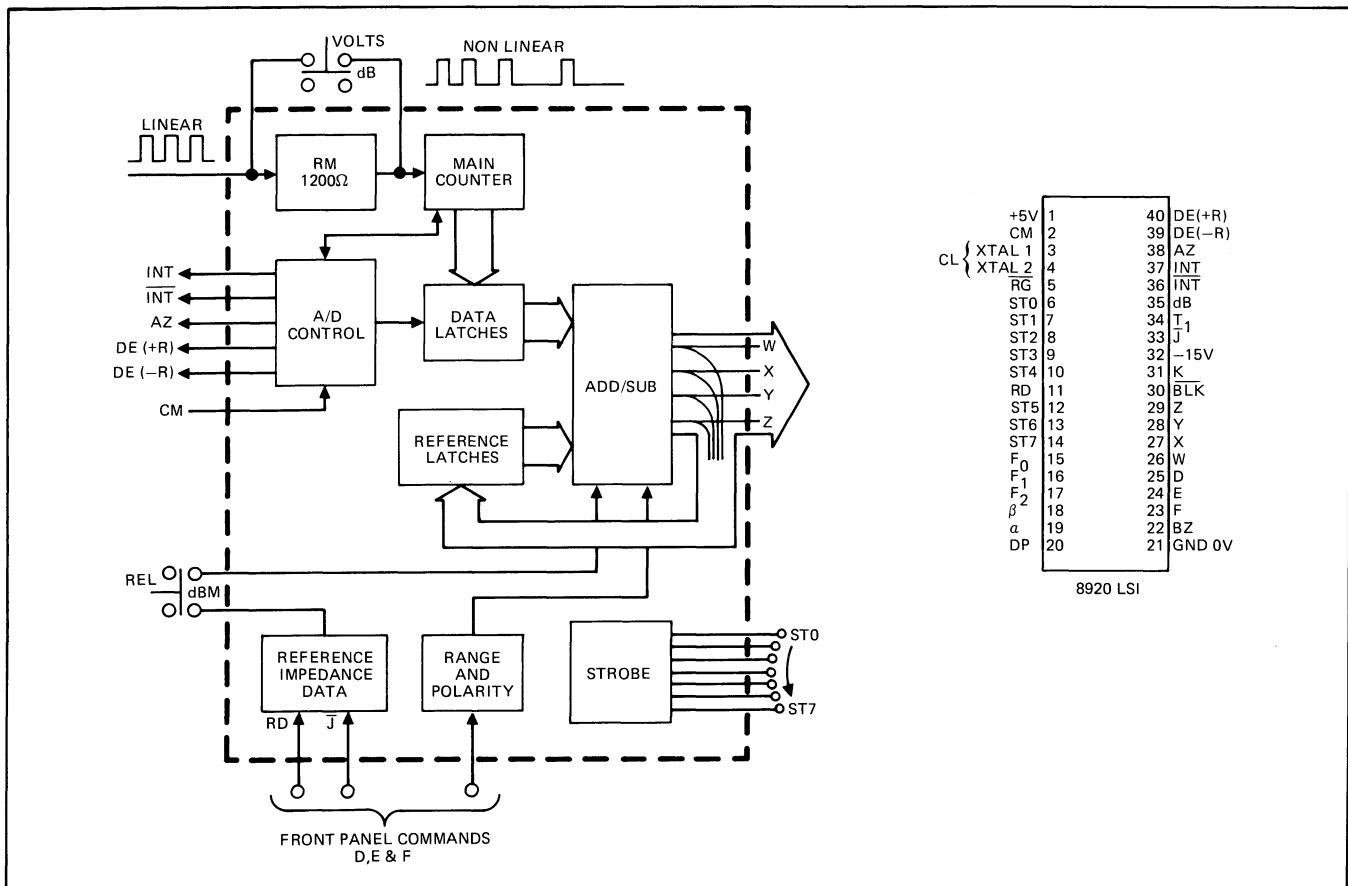

Figure 3-7. Controller Functions
Display and Annunciators will be described immediately after this section on the Controller. A summarized description of each input and output pin used on the Controller is given in Table 3-2 and shown in Figure 3-7.
3-32. To make a voltage measurement the Controller must linearly count clock pulses for a time determined by the A/D Converter. Referring to Figure 3-7, you can see that when the dB/VOLTS switch is placed in its up (out) position the rate multiplier (RM) will be shunted and the main counter will count the number of clock pulses exactly as they occur (linear). As soon as the integrator in the A/D Converter reaches the auto-zero point, CM will go high, commanding the main counter to stop counting and simultaneously shifting its count to the data latches. What is now held in the data latches is a count of clock pulses, in bcd format, that is proportional to the true rms value of the signal being measured. The bcd data is then shifted out of the controller, to a seven-segment decoder on four lines: W, X, Y and Z.
3-34. If the dB/VOLTS switch is in the dB position, a non-linear count of the clock pulses is enabled. The binary rate multiplier (RM) passes only a fraction of the clock pulses on to the Controller's main counter (see the illustrated input to the main counter on Figure 3-7). This count approximates the logarithmic curve of the dB scale and, like the VOLTS mode, is stored in the data latches.
3-38. Referring to Figure 3-7, let's assume that a 600 ohm reference impedance is selected and the instrument had previously made a relative measurement. Strobe zero
3-41. Referring the Figure 3-7. you can see that upon selection of the REL mode, the reference impedance data line will be disabled. However, to make a relative reference measurement the controller must use an initial reading, and to obtain an initial reading it must use a